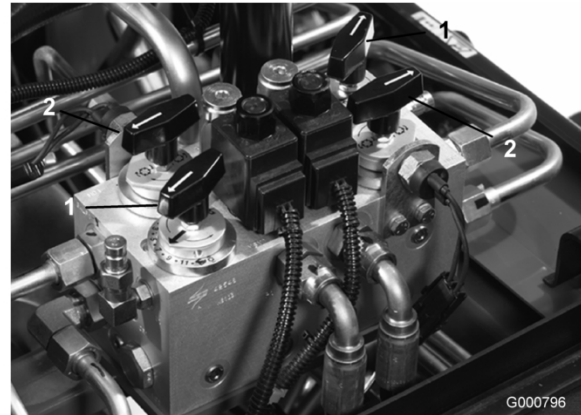

Figure 70
3. Locate the reel speed selector knobs and backlap knobs (Figure 70). Rotate the desired backlap knob(s) to the backlap position and the desired reel speed selector knob(s) to position 1.